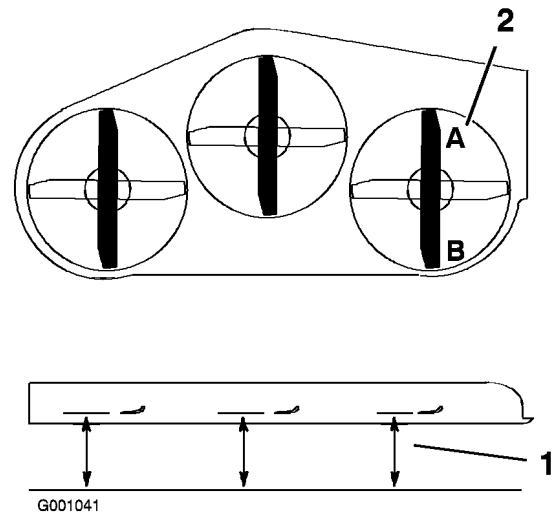

Figure 62
- Position the **right** blade front-to-rear (Figure 62).
- Measure the right blade at the **A** location, from a level surface to the cutting edge of the blade tip (Figure 62).
- Measure the right blade at the **B** location, from a level surface to the cutting edge of the blade tip (Figure 62).
- The mower blade should be a 1/4 to 3/8 inch (6 to 10 mm) lower at position **A** than at position **B** (Figure 62). If it is not correct, proceed to the following steps.